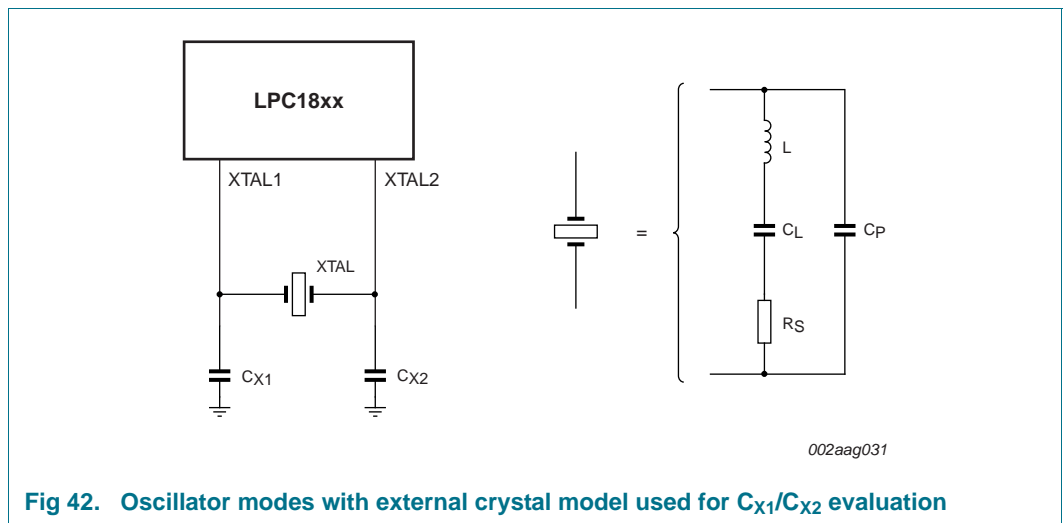

Fig 42. Oscillator modes with external crystal model used for C_{X1}/C_{X2} evaluation
- External components and models used in oscillation mode are shown in Figure 42, and in Table 42 and Table 43. Since the feedback resistance is integrated on chip, only a crystal and the capacitances C_{X1} and C_{X2} need to be connected externally in case of fundamental mode oscillation (L , C_L and R_s represent the fundamental frequency). Capacitance C_P in Figure 42 represents the parallel package capacitance and must not be larger than 7 pF. Parameters F_c , C_L , R_s and C_P are supplied by the crystal manufacturer.